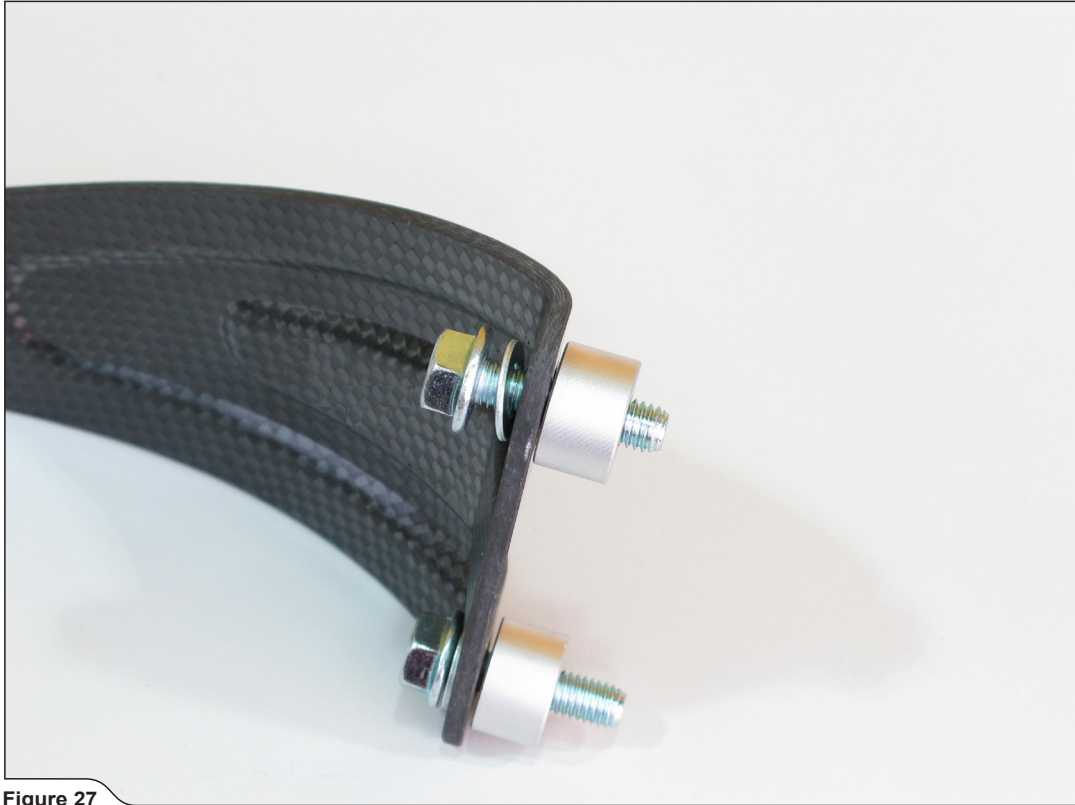

Figure 27
6. Unscrew the marked bolts and remove the passenger's footrest (Figure 26). Assemble the Akrapovič carbon fiber muffler bracket using Akrapovič bolts, washers and aluminium distance bushes (Figure 27).